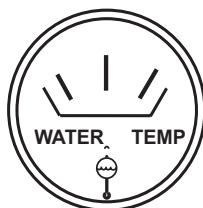

Figure 30. Coolant Temperature Gauge
14. The coolant temperature gauge (Figure 30) will indicate the coolant temperature. Under normal operating conditions the coolant temperature is between 165 and 215 degrees fahrenheit.